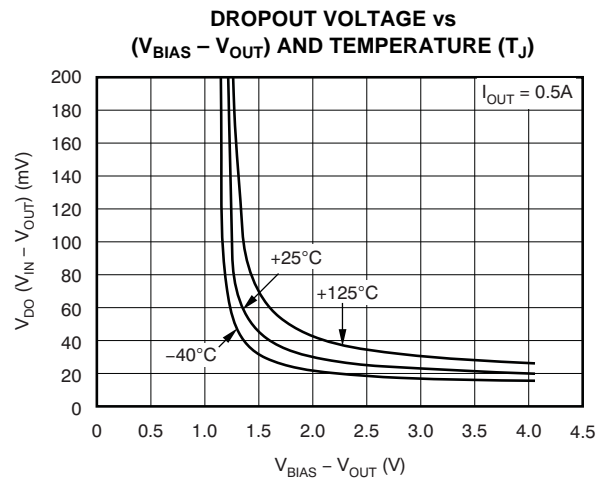

Figure 8.
(1) Adjustable devices tested at 0.8V; resistor tolerance is not taken into account.
(2) Dropout is defined as the voltage from V_{IN} to V_{OUT} when V_{OUT} is 3% below nominal.
(3) 1.62V is a test condition of this device and can be adjusted by referring to Figure 8.
(1) $1.62V$ is a test condition of this device and can be adjusted by referring to Figure 8.